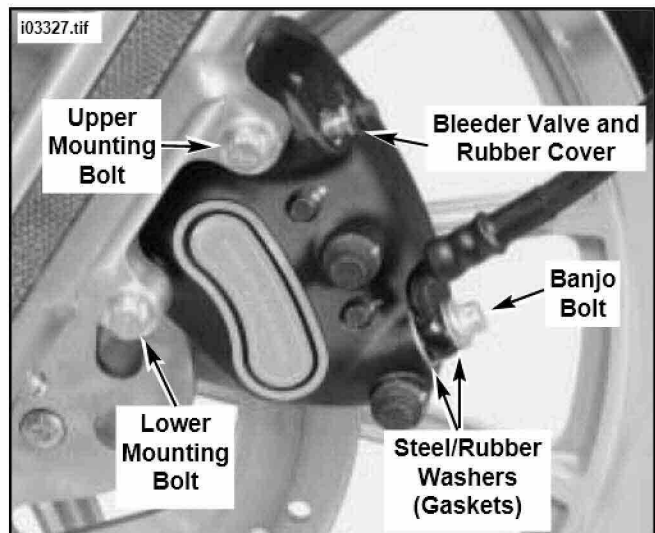

Figure 1. Remove Existing Caliper
1. See Figure 1. Remove the banjo bolt and both steel/rubber washers to detach front brake line from caliper. Discard washers but save banjo bolt.
1. Install end of a length of clear plastic tubing over caliper bleeder valve (Refer to Figure 1 for bleeder valve location). Place the other end in a clean container. Stand motorcycle upright.